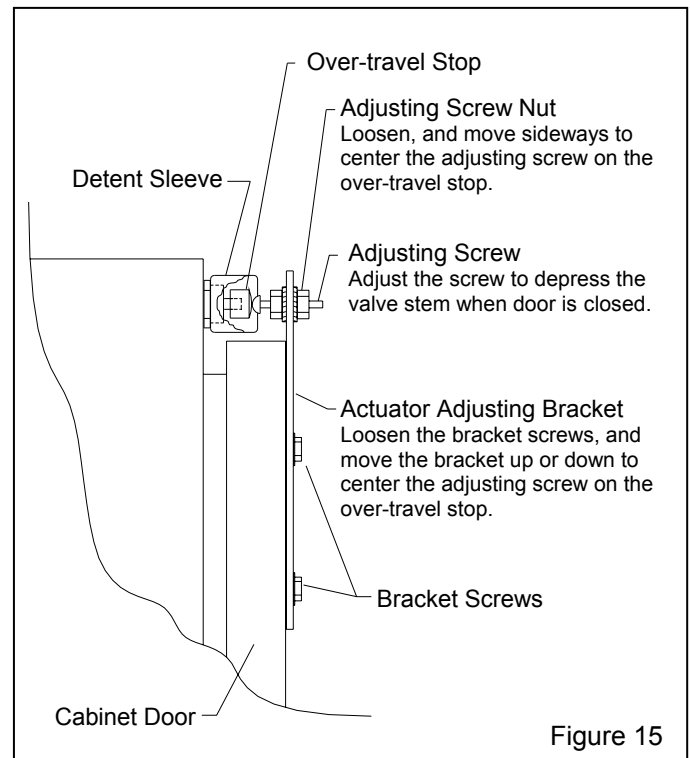

Figure 15
5.6 Door Interlocks, Figure 15